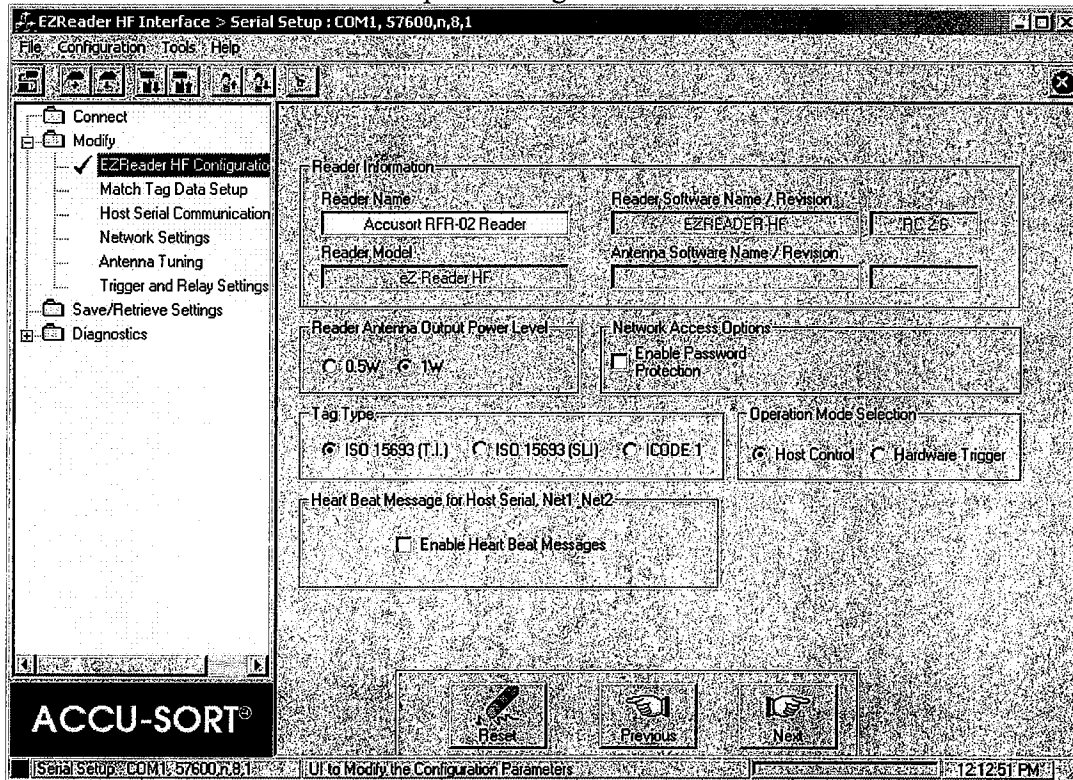

Figure 24
9.11.1 Make sure that the EZReader is configured as shown below in Figures 24 and 25 if not make the required changes and SAVE them.